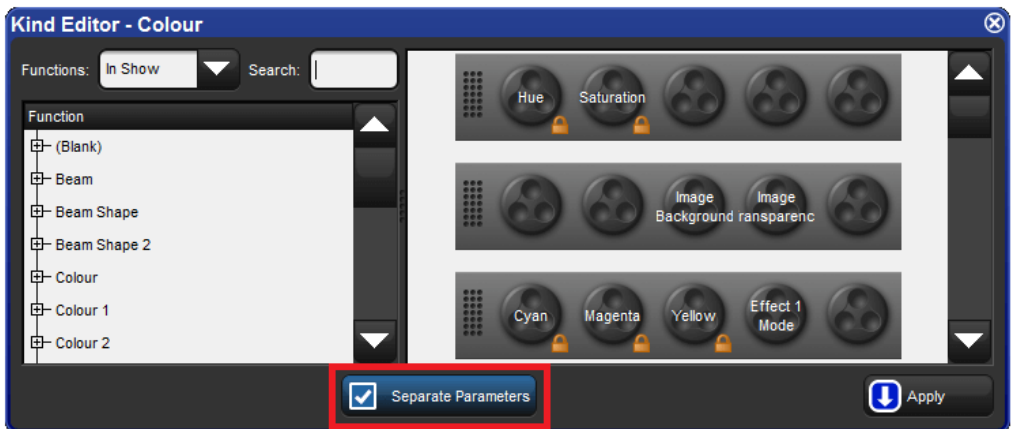

Figure 6.16. A Kind Editor for the Colour kind with separate parameters turned on.
2. Toggle separating parameters on and off by pressing the parameter type buttons; see Figure 6.16, “A Kind Editor for the Colour kind with separate parameters turned on.”.